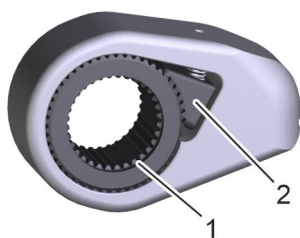

Fig. 36: Ratchet lever
- 11.** ➤ Clean and grease the serration on the driver (Fig. 36/2) and toothed bushing (Fig. 36/1).